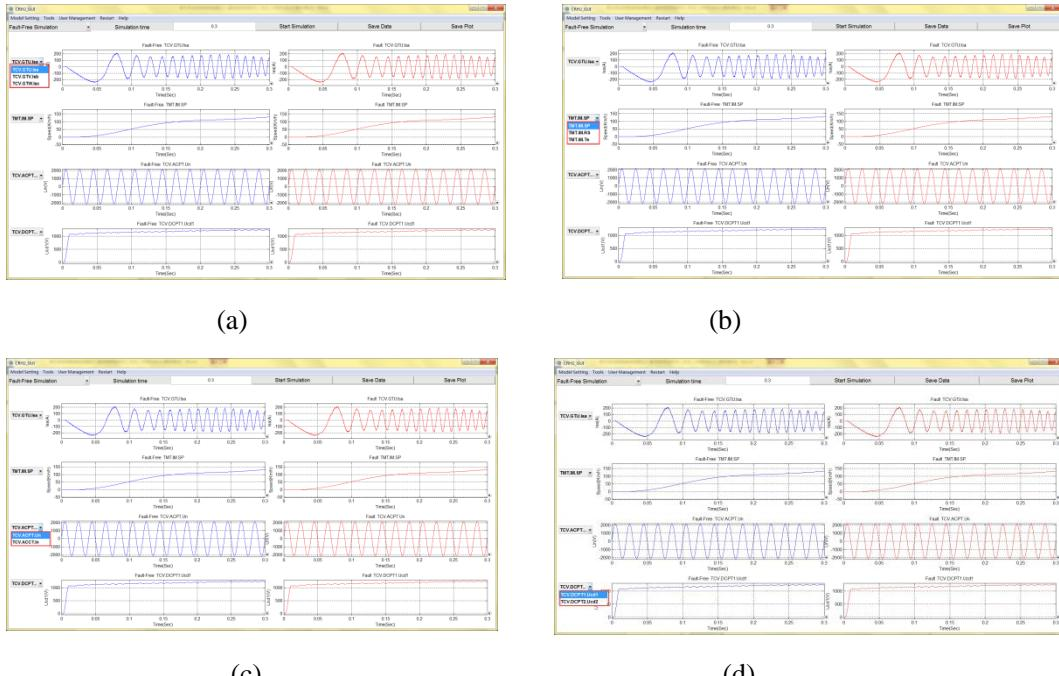

Fig. 48 Observation point selection
⑤ By means of the drop-down menu in the waveform's left side, observation point can observe waveform of the different parameters, as shown in the red box in Fig.48 (a), (b), (c), (d).
⑧Select the different parameter waveforms to observe by observing point drop-down menu, as shown in Fig. 48.